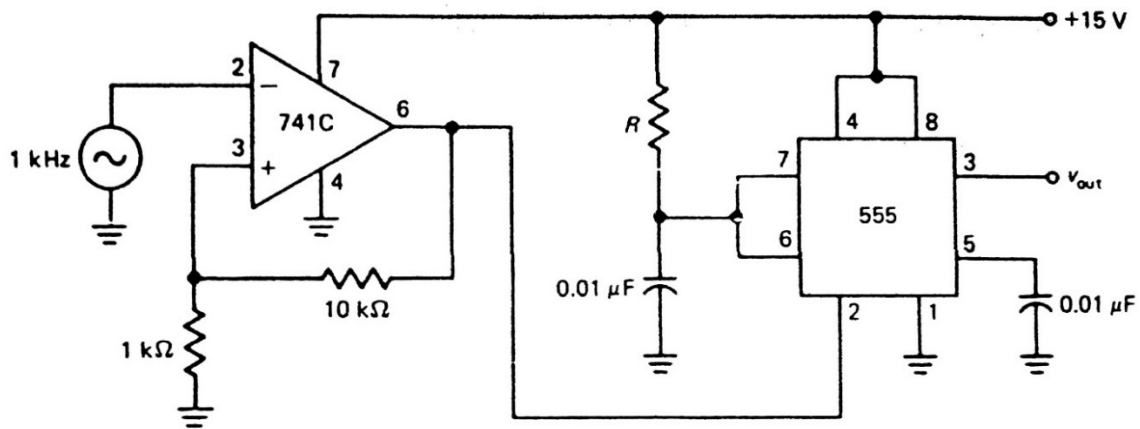

Figure 5.11. Experimental *Monostable* Operation
1. Figure 5.11 shows a Schmitt trigger driving monostable 555 timer. Calculate the pulse width for each R listed in table 5.2! Record the results under $W_{calculated}$!
2. Connect the circuit of figure 5.11 with an R of 33 k Ω !